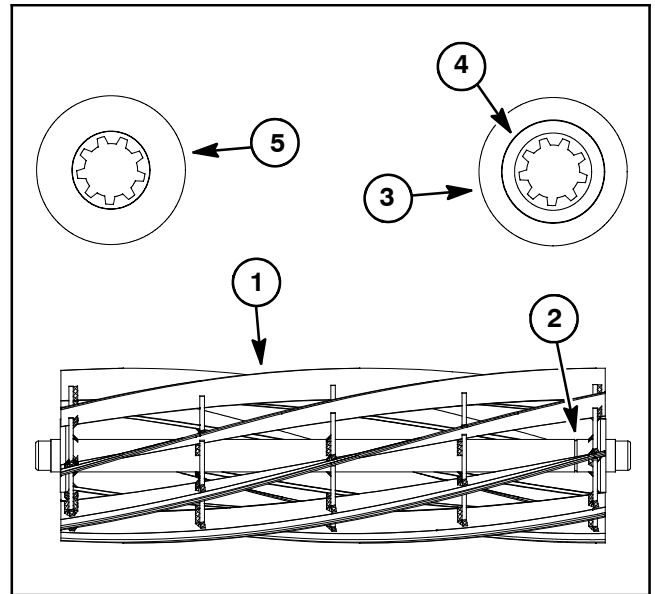

Figure 32
1. Remove threaded inserts (items 2 and 8) from cutting reel. The threaded insert with the groove on the face has LH threads and is in end of reel shaft identified with a groove that is just inside of reel spider (Fig. 32). Use correct spline insert tool for insert removal (see Special Tools in this chapter).
2. Slide bearings (item 3) from reel shaft.
3. Note orientation of flocked seals (item 4) for assembly purposes (flocked (red) side orientated toward bearing location). Remove flocked seals from reel shaft.
4. Note orientation of special washers (item 5) for assembly purposes (flat side toward bearing location). Carefully drive special washers from reel shaft.
5. If necessary, remove reel shaft plugs (item 7) from reel shaft.
NOTE: The threaded insert with the groove on the face has LH threads and should be installed in end of reel shaft identified with a groove that is just inside of reel spider (Fig. 32).